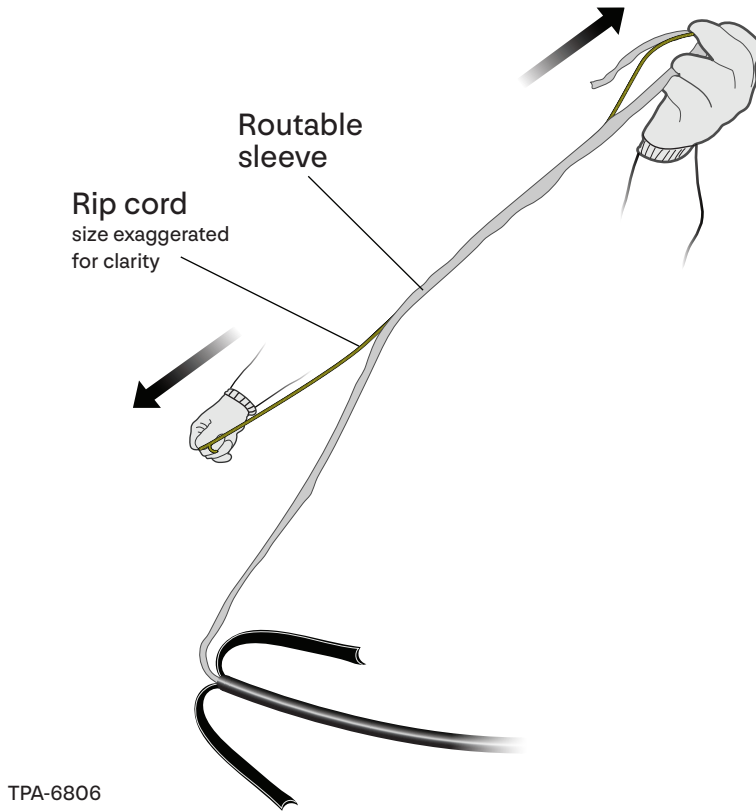

Figure 6
Step 5: Pull apart routable sleeve on the end to find the yellow rip cord, then pull the rip cord to the taped location. Leave 6" of routable sleeve on the cable (Figure 6).